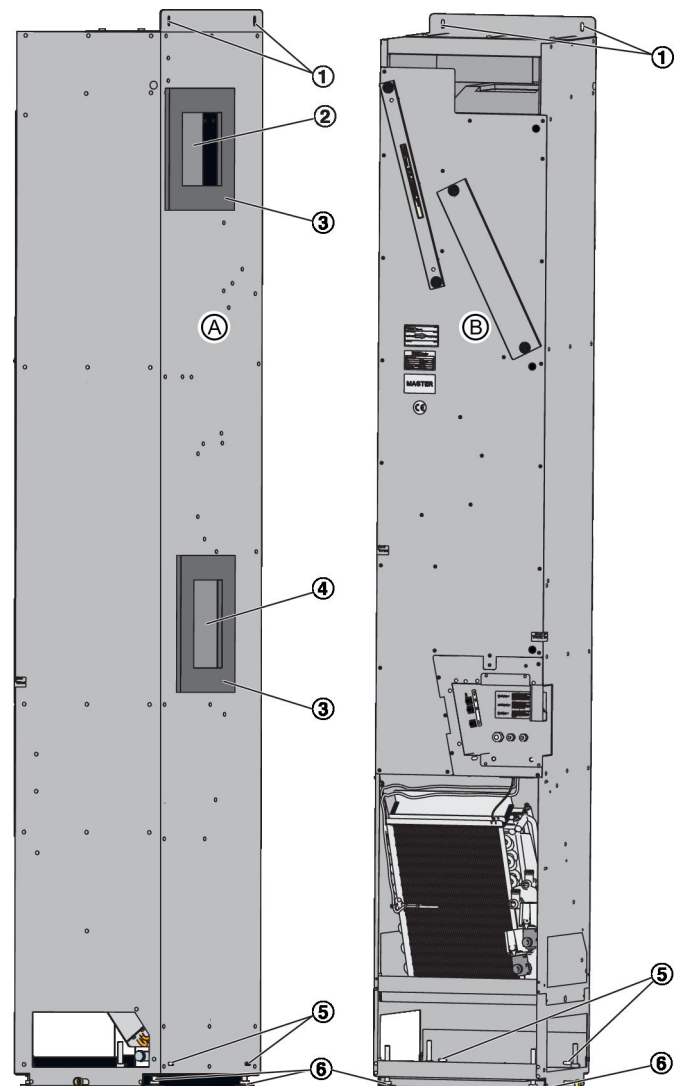

Fig. 8: Installation by example of SCHOOLAIR-V
1. ▶ Place the unit in such a way that the wall side (Fig. 8/A) faces the wall. The openings for the air (Fig. 8/2 and Fig. 8/4) must be aligned with the prepared openings in the external wall; adjust the feet if necessary.
2. ▶ Use suitable screws (\varnothing 6 mm) for the provided fixing holes (Fig. 8/1 and Fig. 8/5) to fix the unit to the external wall.